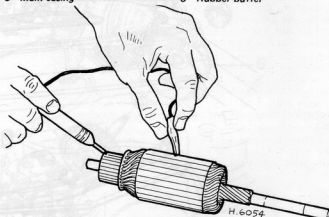

Fig. 10.14. Testing the starter armature with a test probe (Sec. 17)
- 3 Using a test circuit comprising two probes, a bulb and 12V battery, touch the commutator bars with one probe whilst holding the other against the armature metal (see Fig. 10.14). The test bulb should not light up.